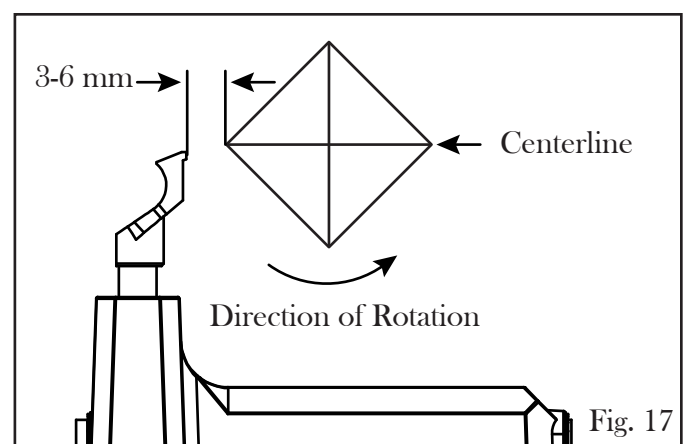

Fig. 17
7. Adjust the position of the tool rest to be parallel to the workpiece. The tool rest height should be just below the centerline and approximately .1 to .2 inches (3 mm to 6 mm) from the corners of the workpiece to be turned. Secure the tool rest by tightening the tool rest locking handle and locking lever (Fig. 17).